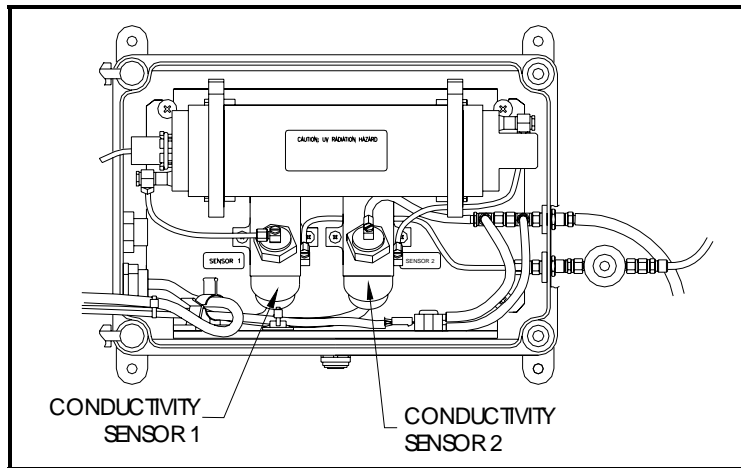
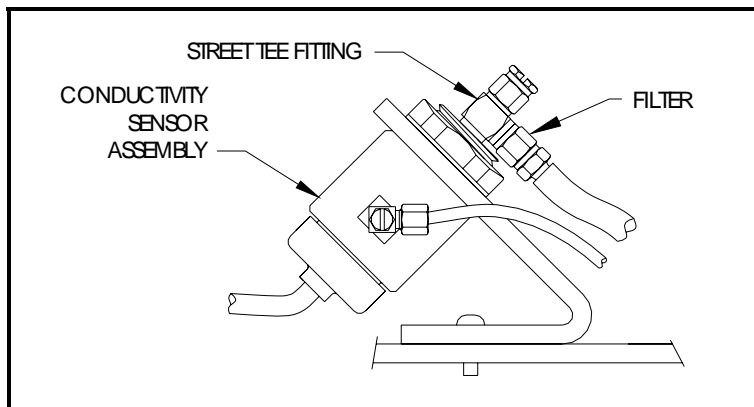

Figure 2. Location of Conductivity Sensor #1 and #2
Figure 3. Location of Filter and Street Tee Fitting at Conductivity Sensor #2
3. The location of Conductivity Sensor 2 is shown in Figure 2. The filter is located on the top of the conductivity sensor and is between the street tee fitting and the barb fitting connected to the tubing. See Figure 3.